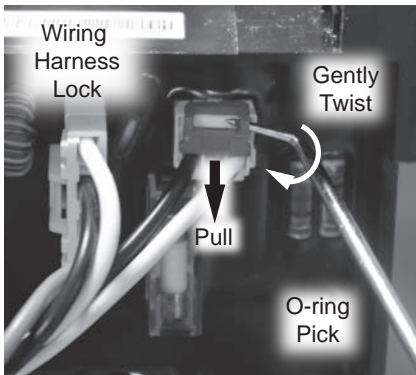
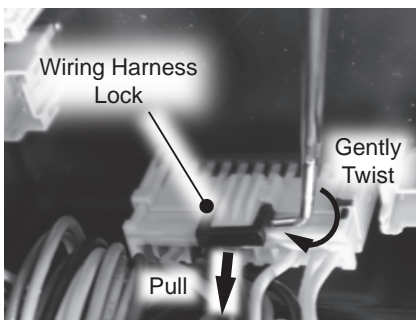

Figure 55 - Red harness lock removal
Figure 56 - Black harness lock removal
- 8** On connection point "B", use an O-ring pick to apply pressure to the point shown in Figure 55 while pulling the harness from the board. Remove "lock" and place aside in a safe place for reinstallation.
- 9** On connection points "C" and "H", use an O-ring pick to apply pressure to the point shown in Figure 56 while pulling the harness from the board. Remove "locks" and place aside in a safe place for reinstallation.
- 13** Reconnect the "locks" on wiring harnesses "B", "C", and "H". See Figure 55 and Figure 56 for reference.